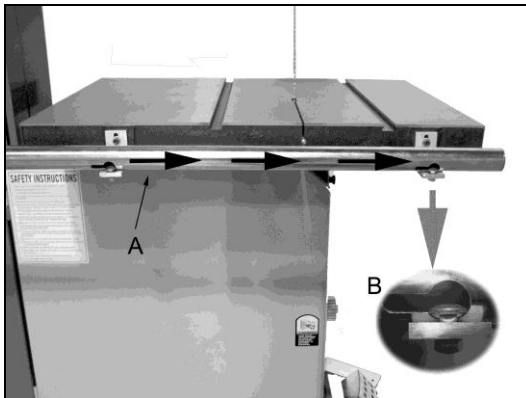

Figure 2
3. Loosely install the supplied carriage bolts and nuts onto the rail brackets as shown in inset B of Figure 2. Line up the two large holes in the rail with the two carriage bolts, as shown in Figure 2. Slide the rail to the right and tighten into place.